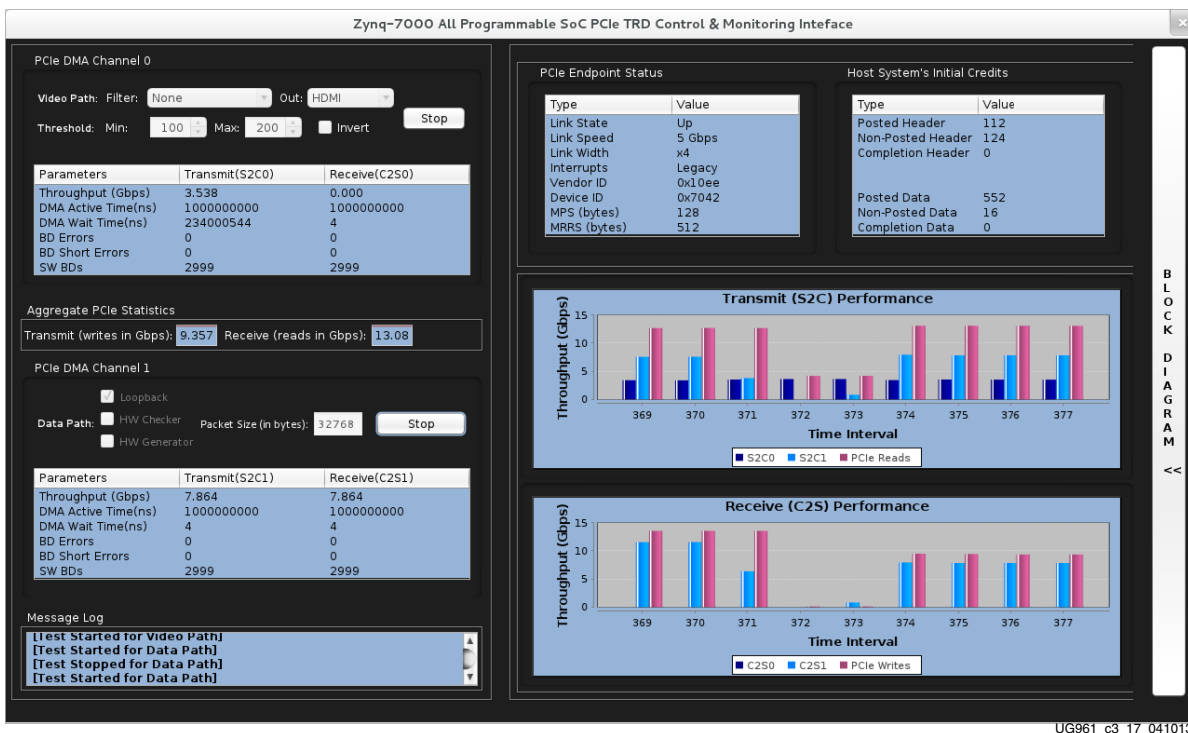

Figure 3-17: Performance Mode Plots
- As noted in the discussion above, because a single HD stream of video data is insufficient to saturate available PCIe x4 Gen2 bandwidth, datapath 1 can be turned on to add additional PCIe traffic. Click on the **Start** button in the Data Path-1 panel to generate additional traffic. On this path, the user can vary packet sizes and see performance variation accordingly. Total PCIe BW is updated in the PCIe statistics panel and the performance plot. The user can select **Loopback**, **HW Generator**, and the **HW Checker** option in the GUI for Data Path-1 (Figure 3-17).